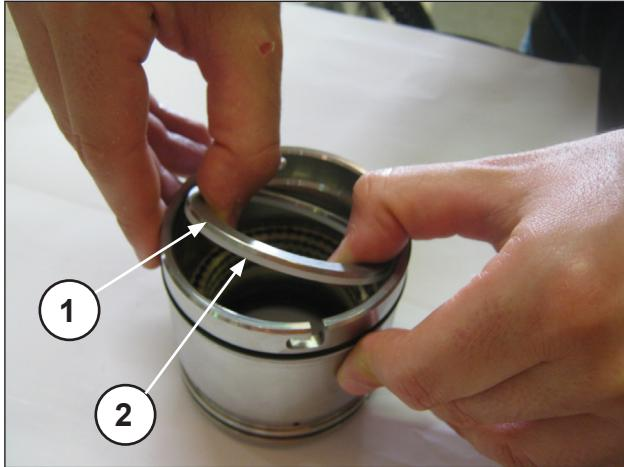
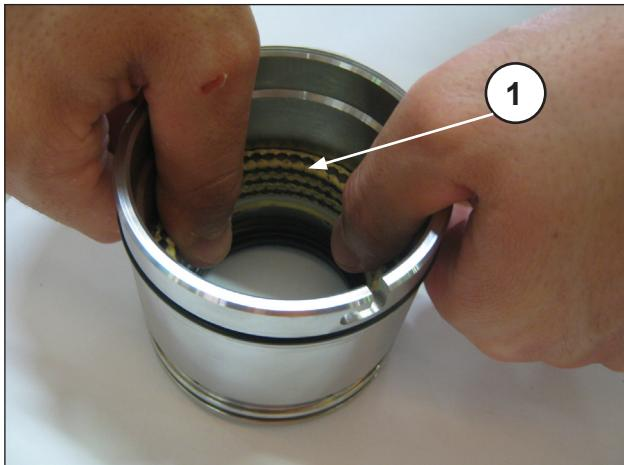

Fig. 162
Fig. 163
Separate the seal support from the liner, remove the spring ring and scraper ring (pos. ①②, Fig. 162) to access the pressure seals (pos. ①, Fig. 163).